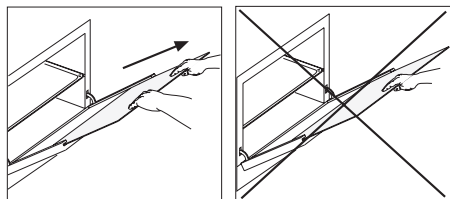
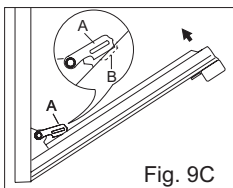

Fig. 9A
Fig. 9C
Use both hands to remove the glass as shown in figures 9A.
- 3 shut the oven door slowly until it reaches hooks "A", making sure these are locked into slots "B" of the oven door, as shown in fig. 9C. Remove the glass Fig. 9A (only for models where present).